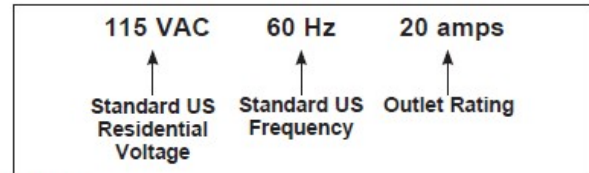
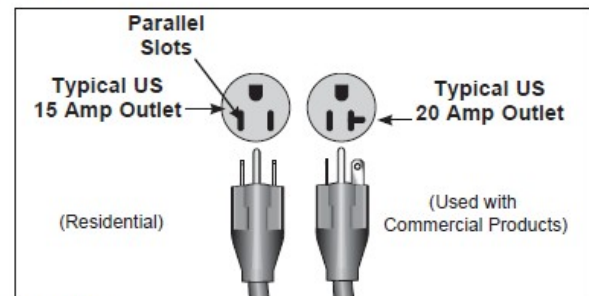

Figure 1
Figure 2
- TRUE's recommendation is to leave a 39" safety zone at rear of bike. The sides of the bike should be at least 20" away from the wall or obstructions. (See Fig 1)
For example, in the United States some TRUE treadmills require a circuit rated 115 VAC, 60 Hz and 20 amps. See Figure 1. However, a home typically has 15 amp outlets. In this case, contact an electrician to install a 20 amp dedicated line prior to use. See Figure 2.